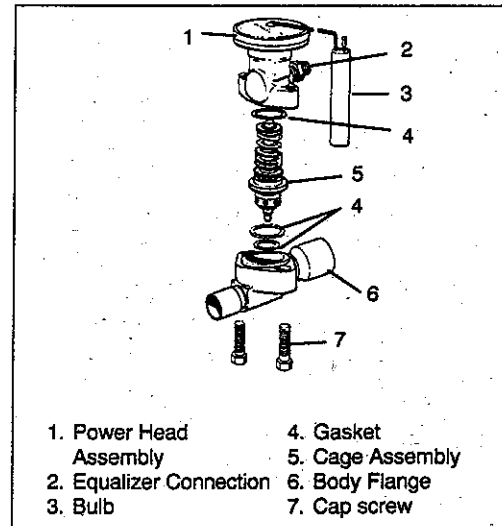
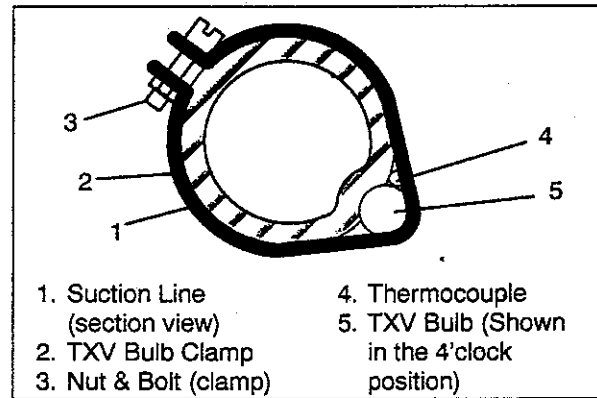

Figure 4-11 Thermostatic Expansion Valve
Figure 4-12 Thermostatic Expansion Valve Bulb and Thermocouple
- b. Remove insulation from expansion valve and bulb. See *Figure 4-11* and *Figure 4-12*.
- Place temperature thermocouple in contact with the suction tube and parallel to the TXV bulb, and then secure loosened clamp making sure both bulb and thermocouple are firmly secured to suction line. See Figure 4-12. Reinstall insulation around the bulb.